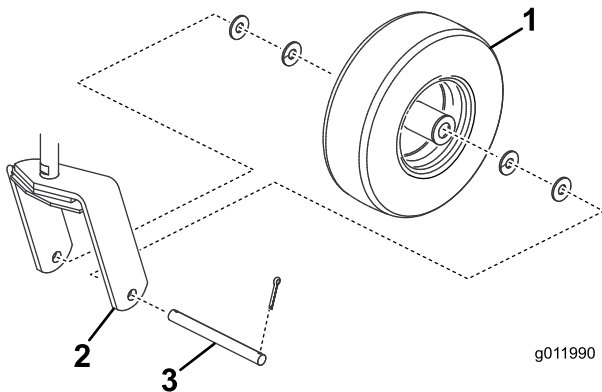

Figure 2
Install a caster wheel assembly between each caster fork with (4) washers, axle and (2) cotter pins (Figure 2).